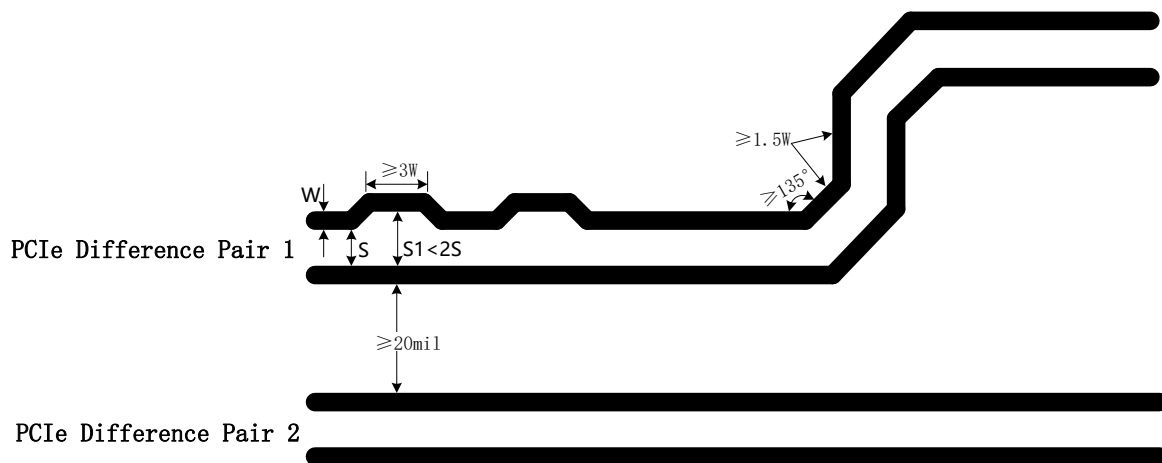

Figure 3-13 Requirement of PCIe Line
- Try to avoid bended lines and avoid introducing common-mode noise in the system, which will influence the signal integrity and EMI of difference pair. As shown in Figure 3-13, the bending angle of all lines should be equal or greater than 135° , the spacing between difference pair lines should be larger than 20mil, and the line caused by bending should be greater than 1.5 times line width at least. When a serpentine line is used for length match with another line, the bended length of each segment shall be at least 3 times the line width ($\geq 3W$). The largest spacing between the bended part of the serpentine line and another one of the differential lines must be less than 2 times the spacing of normal differential lines ($S1 < 2S$);